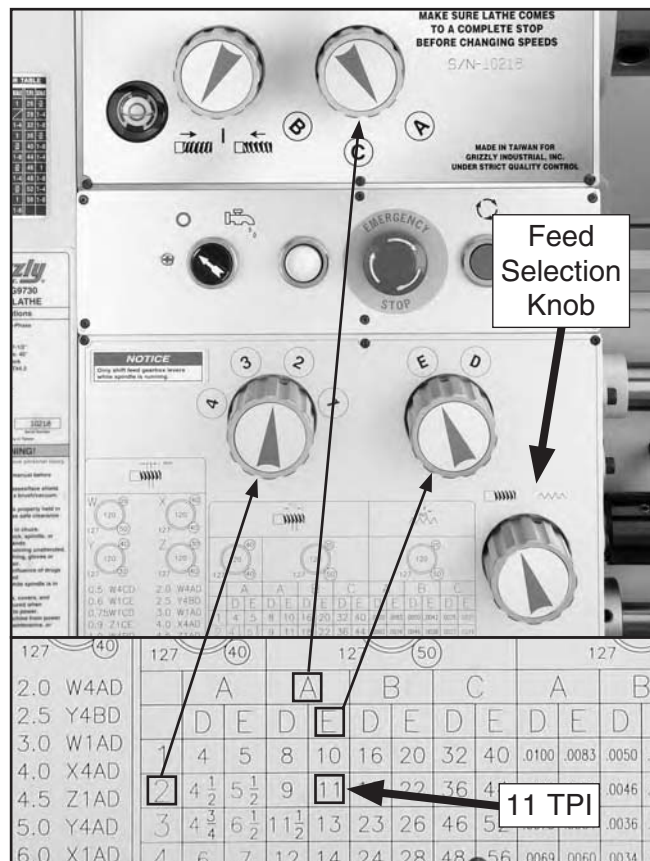

Figure 84. Quick change knobs configured for 11 TPI threading.
- Set the quick change knobs as shown in **Figure 84**.